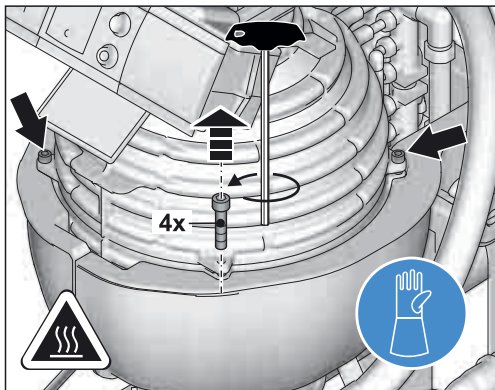

Fig. 9-11 Opening the combustion chamber
- Remove four M10 inner hex screws (fig. 9-11).